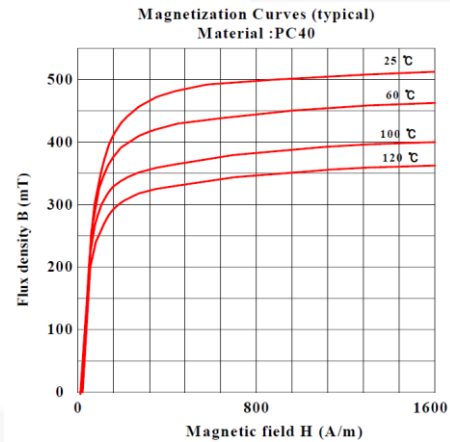

Figure 25. Typical B-H Characteristics of Ferrite Core (TDK/PC40)
Figure 25 shows the typical characteristics of ferrite core from TDK (PC40). Since the saturation flux density ( $B_{sat}$ ) decreases as the temperature goes high, the high temperature characteristics should be considered. If there is no reference data, use  $B_{sat} = 0.3 \sim 0.35$  T. Since the MOSFET drain current exceeds  $I_{ds}^{peak}$  and reaches  $I_{LIM}$  in a transition or fault condition,  $I_{LIM}$  is used in equation (8) instead of  $I_{ds}^{peak}$  to prevent core saturation during transition.